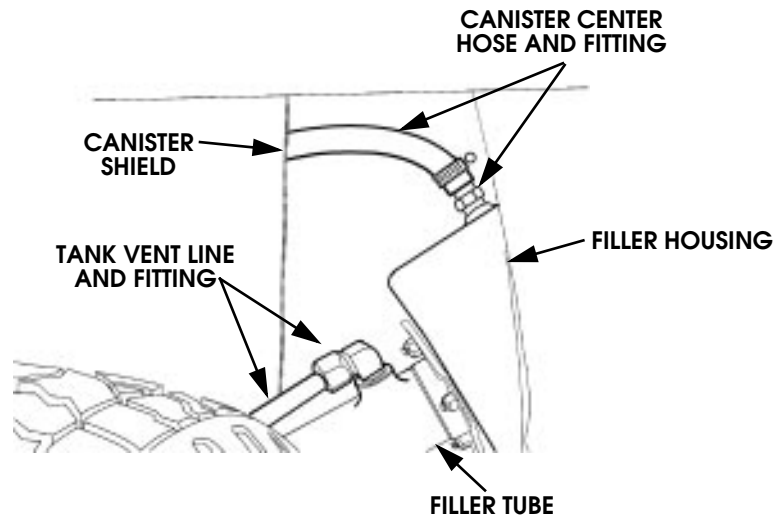

Figure 2 Original Hose and Line to be Disconnected
5. Disconnect canister center hose from filler housing. Remove and discard fitting in filler housing (Figure 2).
9. Disconnect tank vent line at filler tube fitting (Figure 2). Discard filler tube fitting as it will not be reused.